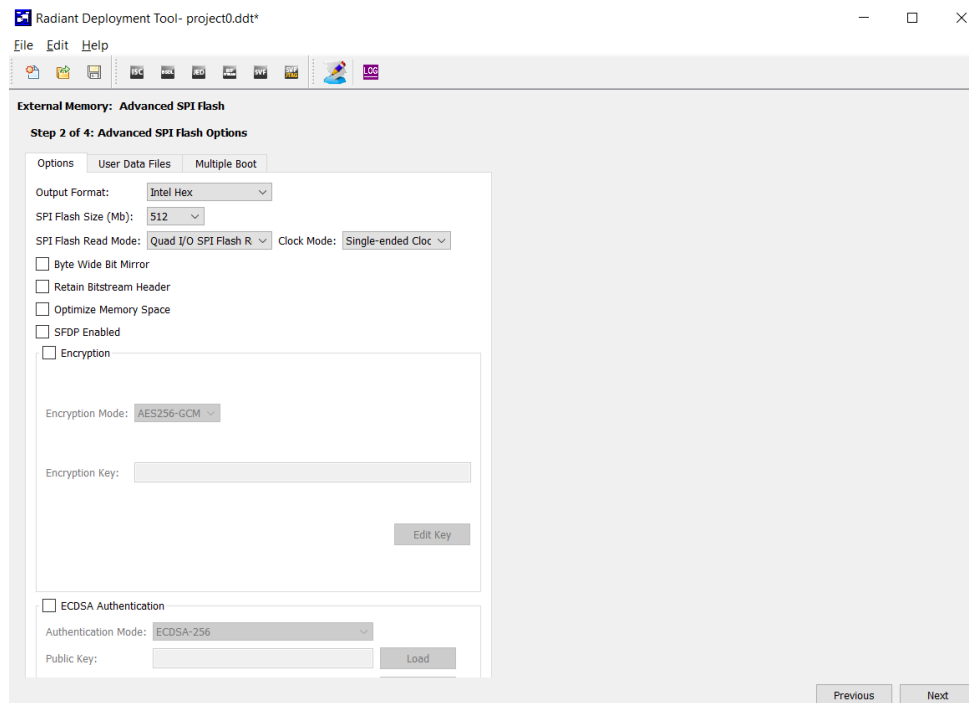

Figure 8.65. External Memory Step 2 of 4: Select Options
7. In Step 2 of 4: Select the fields as shown in Figure 8.65.